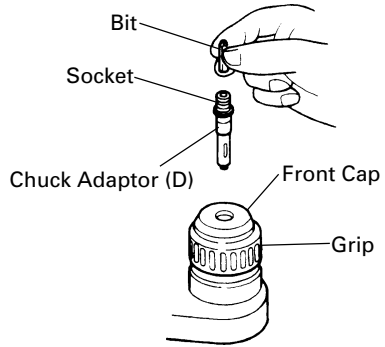

Fig. 17
6. When driving machine screws (Fig. 17)
- Do not attempt to use the rotary hammer in the rotation and striking function with chuck adaptor (D) and bit attached.
7. When driving wood screws (Fig. 17)